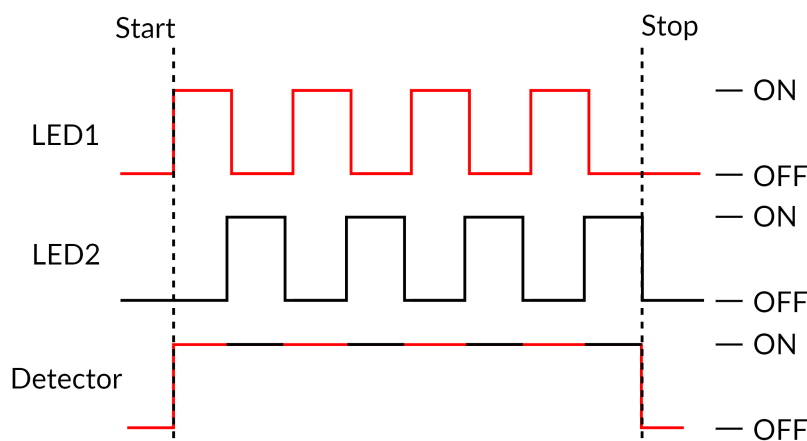

Figure 3.24: Interleaved Acquisition Timing Diagram
- The **Interleaved** channel mode allows 2 channels to send an alternating pulsed signal of opposite phase for two separate light sources. Each source can excite a different fluorophore, which allows the detection of two separate fluorescence signals coming from the same sample using a single channel (Fig. 3.24). A more detailed procedure to use this modality is included in section 3.2.4.